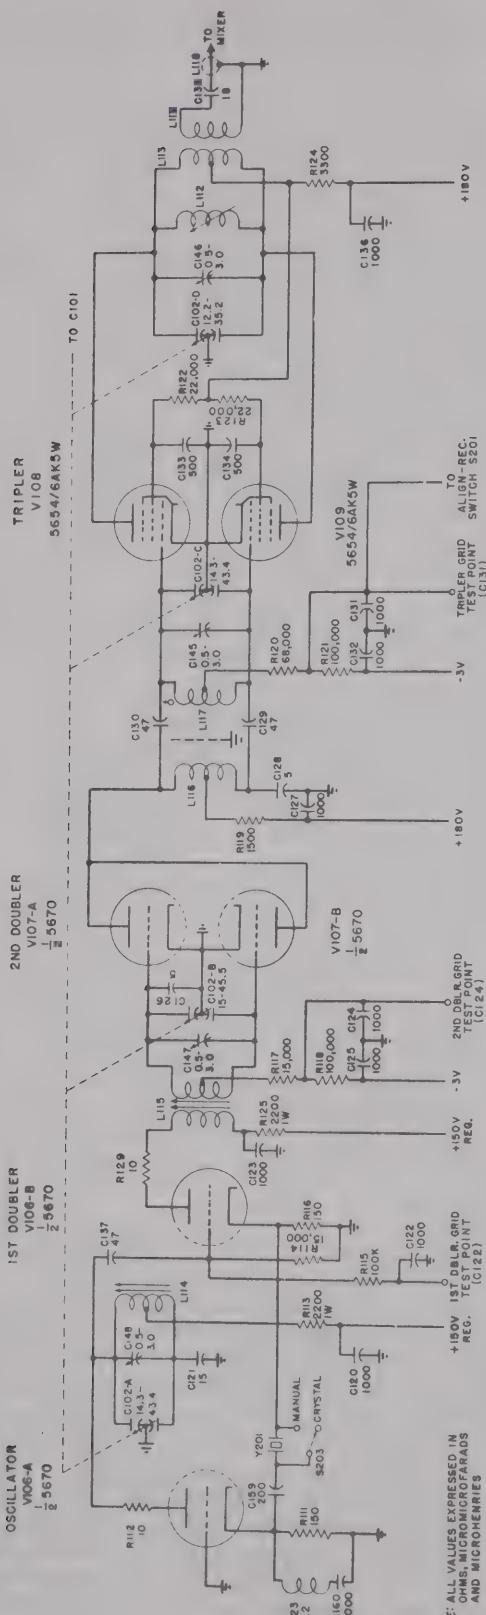

Figure 2-5. Oscillator-Multiplier Section of Preselector, Simplified Schematic Diagram
The output of the second r-f stage is coupled to the grid circuit of the mixer stage by capacitors C111 and C110, while the output of the oscillator-multiplier circuit is inductively coupled to the grid circuit of the mixer through a coupling loop consisting of inductance L119 and capacitor C135 in the oscillator-multiplier unit (figure 2-5), and inductance L120 and capacitor C118 on the r-f converter (figure 2-4). L118 provides the inductive coupling between the oscillator-multiplier and the r-f amplifier. This coupling arrangement maintains a more uniform mixer-injection voltage over the frequency range of operation. The values of capacitors C118 and C135 are so chosen that, together with the shunt capacity of the short coaxial connecting line and the coupling coils, the loop is series resonant at a frequency (190 mc) below the low end of the band, and parallel resonant at a frequency (470 mc) above the high end of the band. Consequently, at the low-frequency end, the transfer voltage induced in the converter input tank is increased, while at the high end of the band the induced transfer voltage is reduced. If the coupling were not resonant, as described above,
(2) OSCILLATOR - MULTIPLIER SECTION.—The oscillator-multiplier section generates a local injection signal 18.6 mc higher in frequency than the received signal. The basic oscillator frequency is generated in triode V106-A and is multiplied twelve times in the two doublers and one tripler which follow, as shown in the simplified schematic diagram, figure 2-5. When the OSC. switch, S203, is in the MANUAL position, the range of the oscillator is from 20.2063 to 35.05 mc, and the frequency at the plate of the tripler may range from 242.475 to 420.6 mc, allowing the radio receiver to operate over a frequency range of from 223.875 to 402.0 mc. When switch S203 is in the CRYSTAL position, the radio receiver will operate at the frequency determined by the crystal unit, within the frequency range of 222.75 to 404.0 mc. Thus, crystal frequencies between 20.1125 and 35.2167 mc may be used.
(a) OSCILLATOR-FIRST DOUBLER.—The oscillator and first doubler stages utilize a type 5670 dual triode; see figure 2-5. One half of the tube, V106-A, functions as a grounded-grid oscillator. The second half of the dual triode, V106-B, is arranged as a split-load cathode follower, and serves as both a frequency doubler and a source of feedback to the oscillator cathode.
In the actual circuit (figure 2-5), V106-A and V106-B correspond, respectively, to V1 and V2. Y201 corresponds to Y1, while R111, R116 and C137 are equivalent to R1, R2 and C1, respectively. The oscillator tank circuit (L114, C102-A and C148) corresponds to the simplified components, L and C. The plate circuit of the first doubler, V106-B, is tuned to the second harmonic of the oscillator frequency. Therefore, the plate-circuit impedance at the oscillator frequency is very low, resulting effectively in grounded-plate (cathode follower) operation of V106-B at that frequency.
(b) SECOND DOUBLER.—The second doubler stage employs the two sections of the type 5670 dual triode, V107, in a push-push circuit arrangement; see figure 2-5. The grid circuit is balanced and is tuned to the second harmonic of the oscillator frequency. The tuned circuit consists of the center-tapped secondary winding of transformer L115, section B of ganged capacitor C102 and trimmer capacitor C147. Capacitor C126 compensates for the capacitance unbalance to ground in the secondary winding of transformer L115.
(c) TRIPLER.—The tripler stage employs two type 5654/6AK5W pentodes, V108 and V109, in push-pull; see figure 2-5. The parallel-resonant grid circuit consists of inductance L117, section C of capacitor